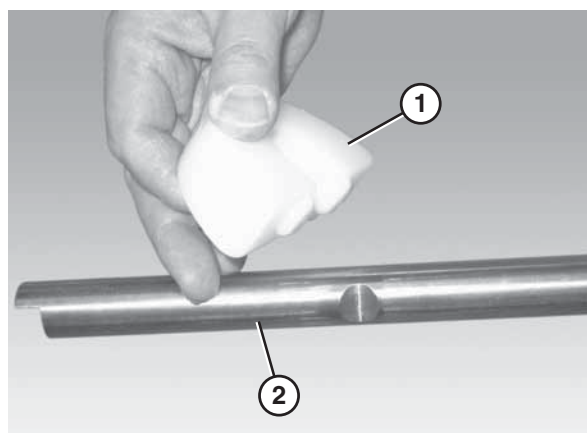

Figure 36
1. Attach the chain return shoes (**Figure 36, item 1**) to the return shaft (**Figure 36, item 2**).